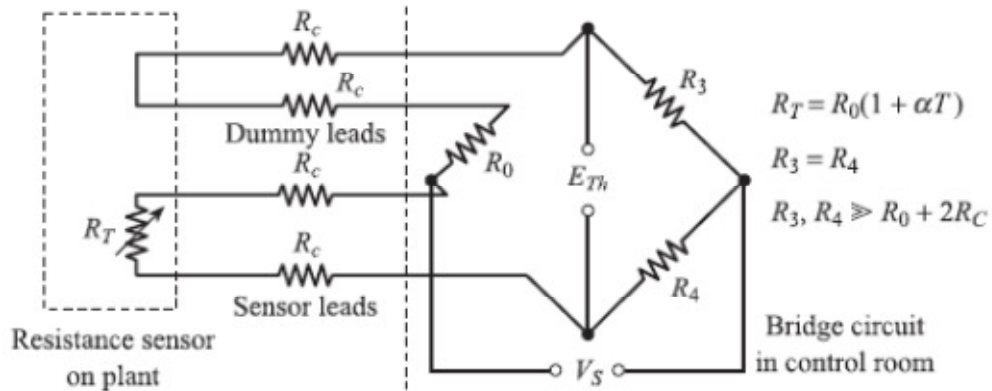

Fig. 3
3. Fig. 3 shows a four-lead bridge circuit;  $R_c$  is the resistance of the leads connecting the sensor to the bridge circuit. Show that  $E_{Th} \approx V_s \left( \frac{R_0}{R_3} \right) \alpha T$ , i.e. the bridge output voltage is unaffected by changes in  $R_c$ . State all assumptions.